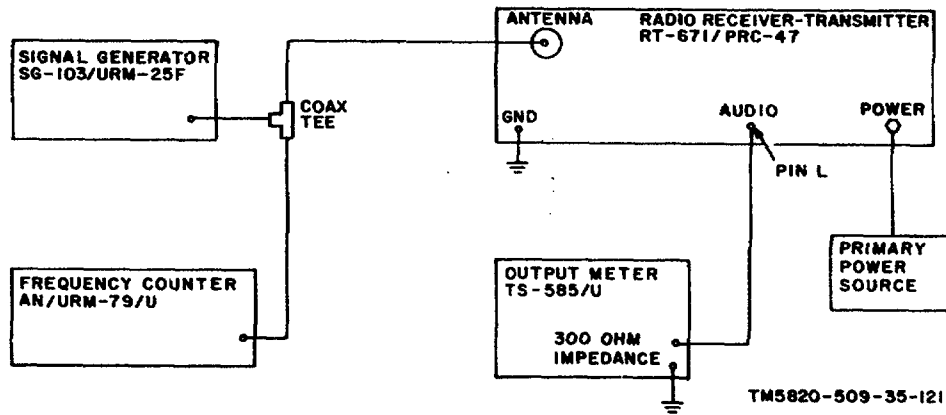

Figure 3-107. Receiver AGC Circuit Adjustment, Test Equipment Setup.
(4) Connect the signal generator and frequency counter to the ANTENNA terminal of the receiver-transmitter as shown in figure 3-107.
(5) Adjust the signal generator to 2226 kHz and set the output level to 1 microvolt.
(6) On the front panel of RT-671/PRC-47, set the controls as follows: